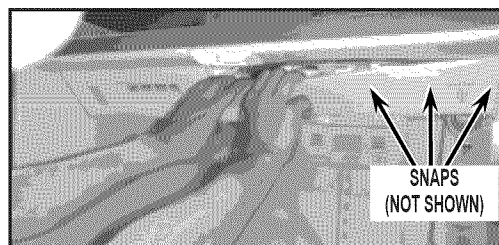

FIGURE 6
8. Working from left to right, slide your hand between the water reservoir cover and RC liner to disengage the snaps. See *Figure 6*.